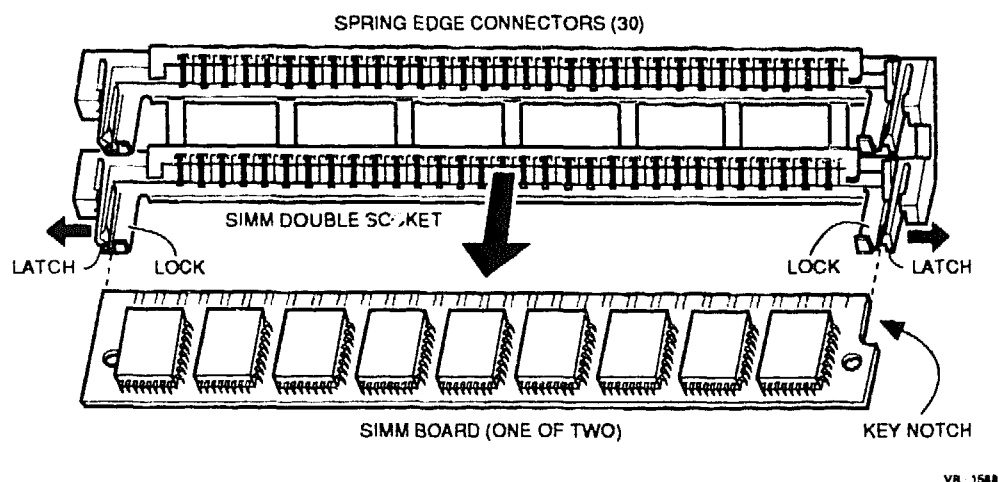
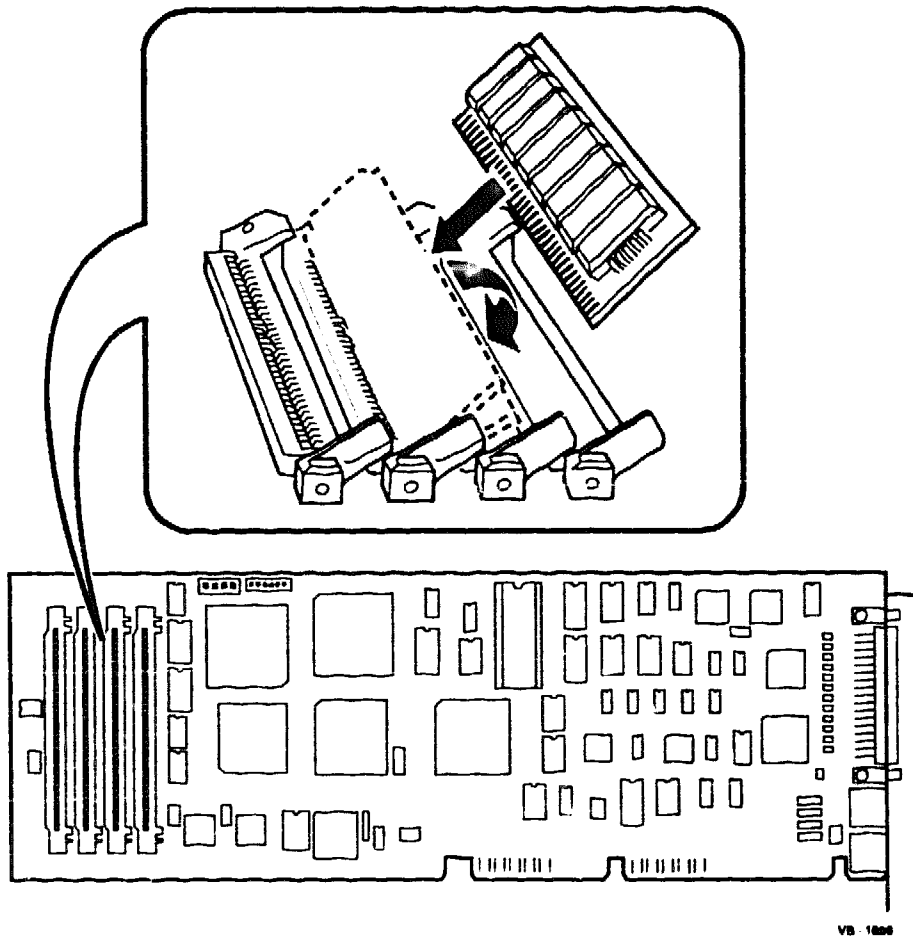

Figure 5-10 Replacing a SIMM on the processor board
Figure 5-11 SIMM Banks on the processor board
The processor board has four connectors that hold the SIMMs. The connectors are logically grouped into two banks (0 and 1), each containing two connectors (Figure 5-11). There must be two SIMMs per bank to be complete.
5. Remove the defective SIMM(s) by releasing the retaining clips, pushing the SIMM into a vertical position and lifting the SIMM out of the socket (Figure 5-10).
6. Install the replacement SIMM(s) in the correct processor board bank by pushing the SIMM into the connector and snapping it in place (Figure 5-11 and Figure 5-10).